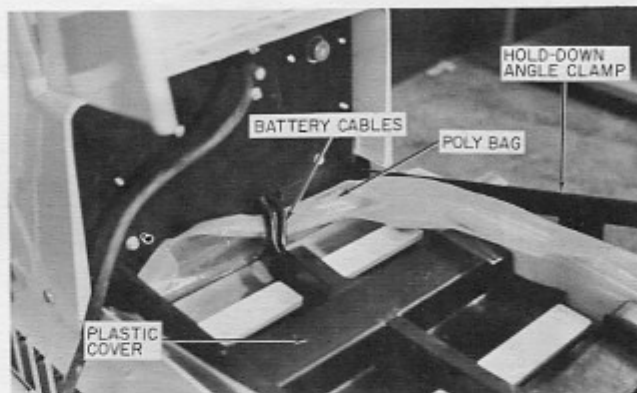

Figure 5
7. Place the plastic cover over the batteries, but inside the top edges of the bag, making sure the battery cables go through the end slots of the cover, and that the center cables fit into the center raised portion of the cover. (See Figure 5.)
8. Place the hold-down angle clamps along the sides of the battery cover, outside the top edges of the bag so the bag is between the cover and the clamps. (See Figure 5.) Notice there is a right and left clamp.
8. Place the plastic cover over the batteries, but inside the top edges of the bag, making sure the battery cables go through the end slots of the cover, similar to Figure 5.
9. Place the longer pair of hold-down angle clamps along the sides of the battery cover outside the top edges of the bag so the bag is between the cover and the clamps. See Figure 5. Notice there is a left and right clamp.